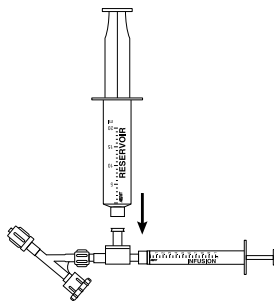

Figure 3
4. The 1 ml infusion syringe is pre-attached to the infusion port. The 20 ml reservoir syringe is filled with heparinized saline and attached to the inlet side-port of the check valve. (Figure 3)